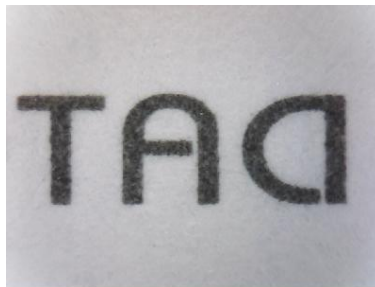

Fig 3-20 Video image do horizontal flip
- ⊕ Horizontal Flip “ ” : The video image left and right mirror 180 degree flip which is horizontal flip shown in Fig. 3-20 ◦